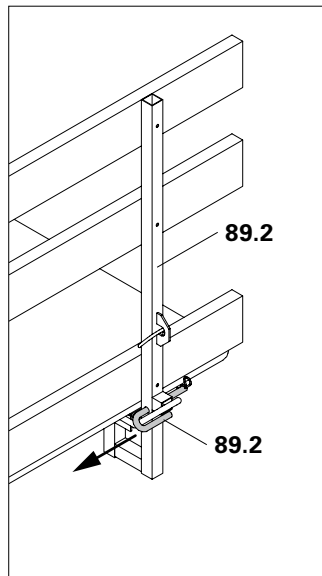

Fig. A7.24a
1. Remove securing pin and cotter pin (89.2). (Fig. A7.24a + A7.24b)